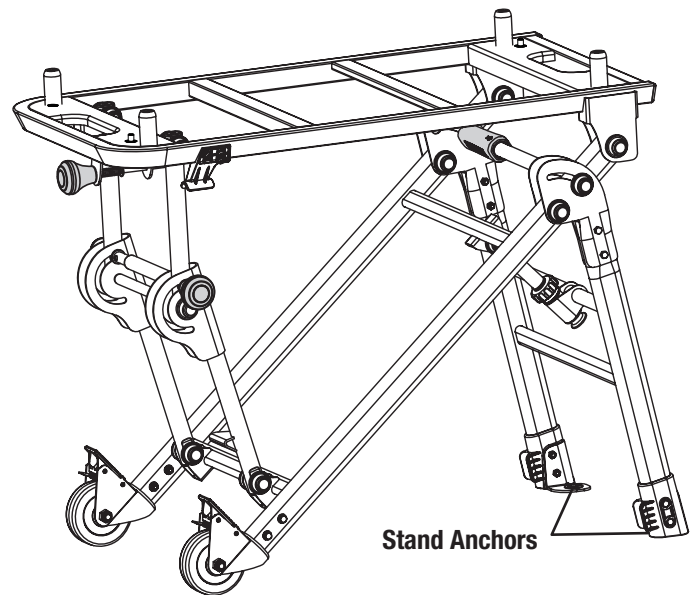

Fig. 9
6. The stand anchors located on the two shorter legs (Fig. 9) may be used to attach the stand to the floor with screws (not supplied).